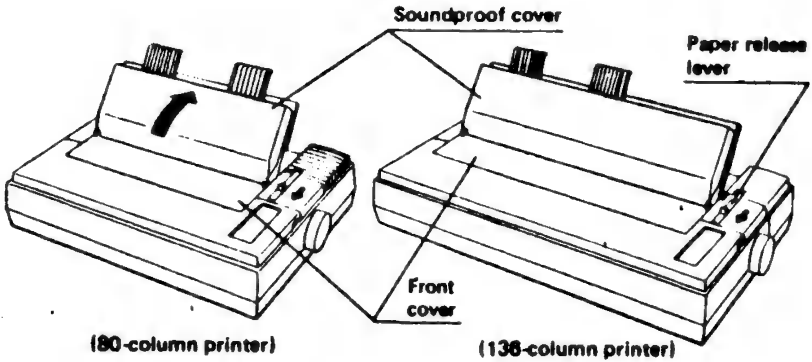

Figure 2-9 Closing the Covers
5. Close the covers. The soundproof cover should be against the Rear Cover, as shown in Figure 2-9.
6. Pull the Paper Release Lever towards the front of the printer (cut sheet paper mode) as shown in Figure 2-9.